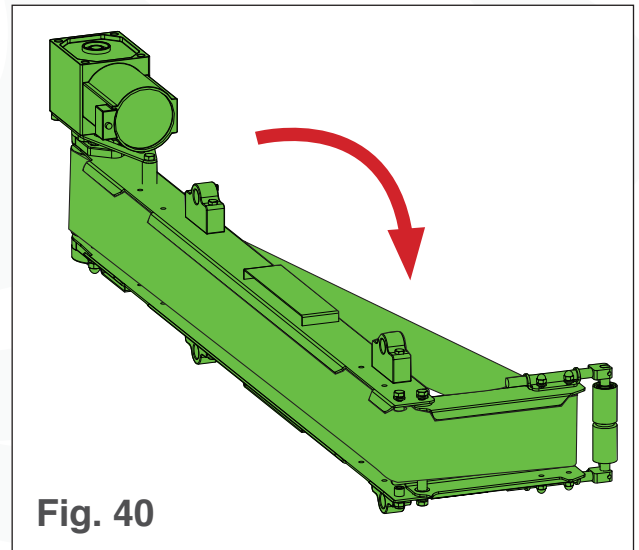

Fig. 40
8. Rest the conveyor bed on the side opposite the motor (see Fig. 40). Do not rest the conveyor bed on its motor-side.